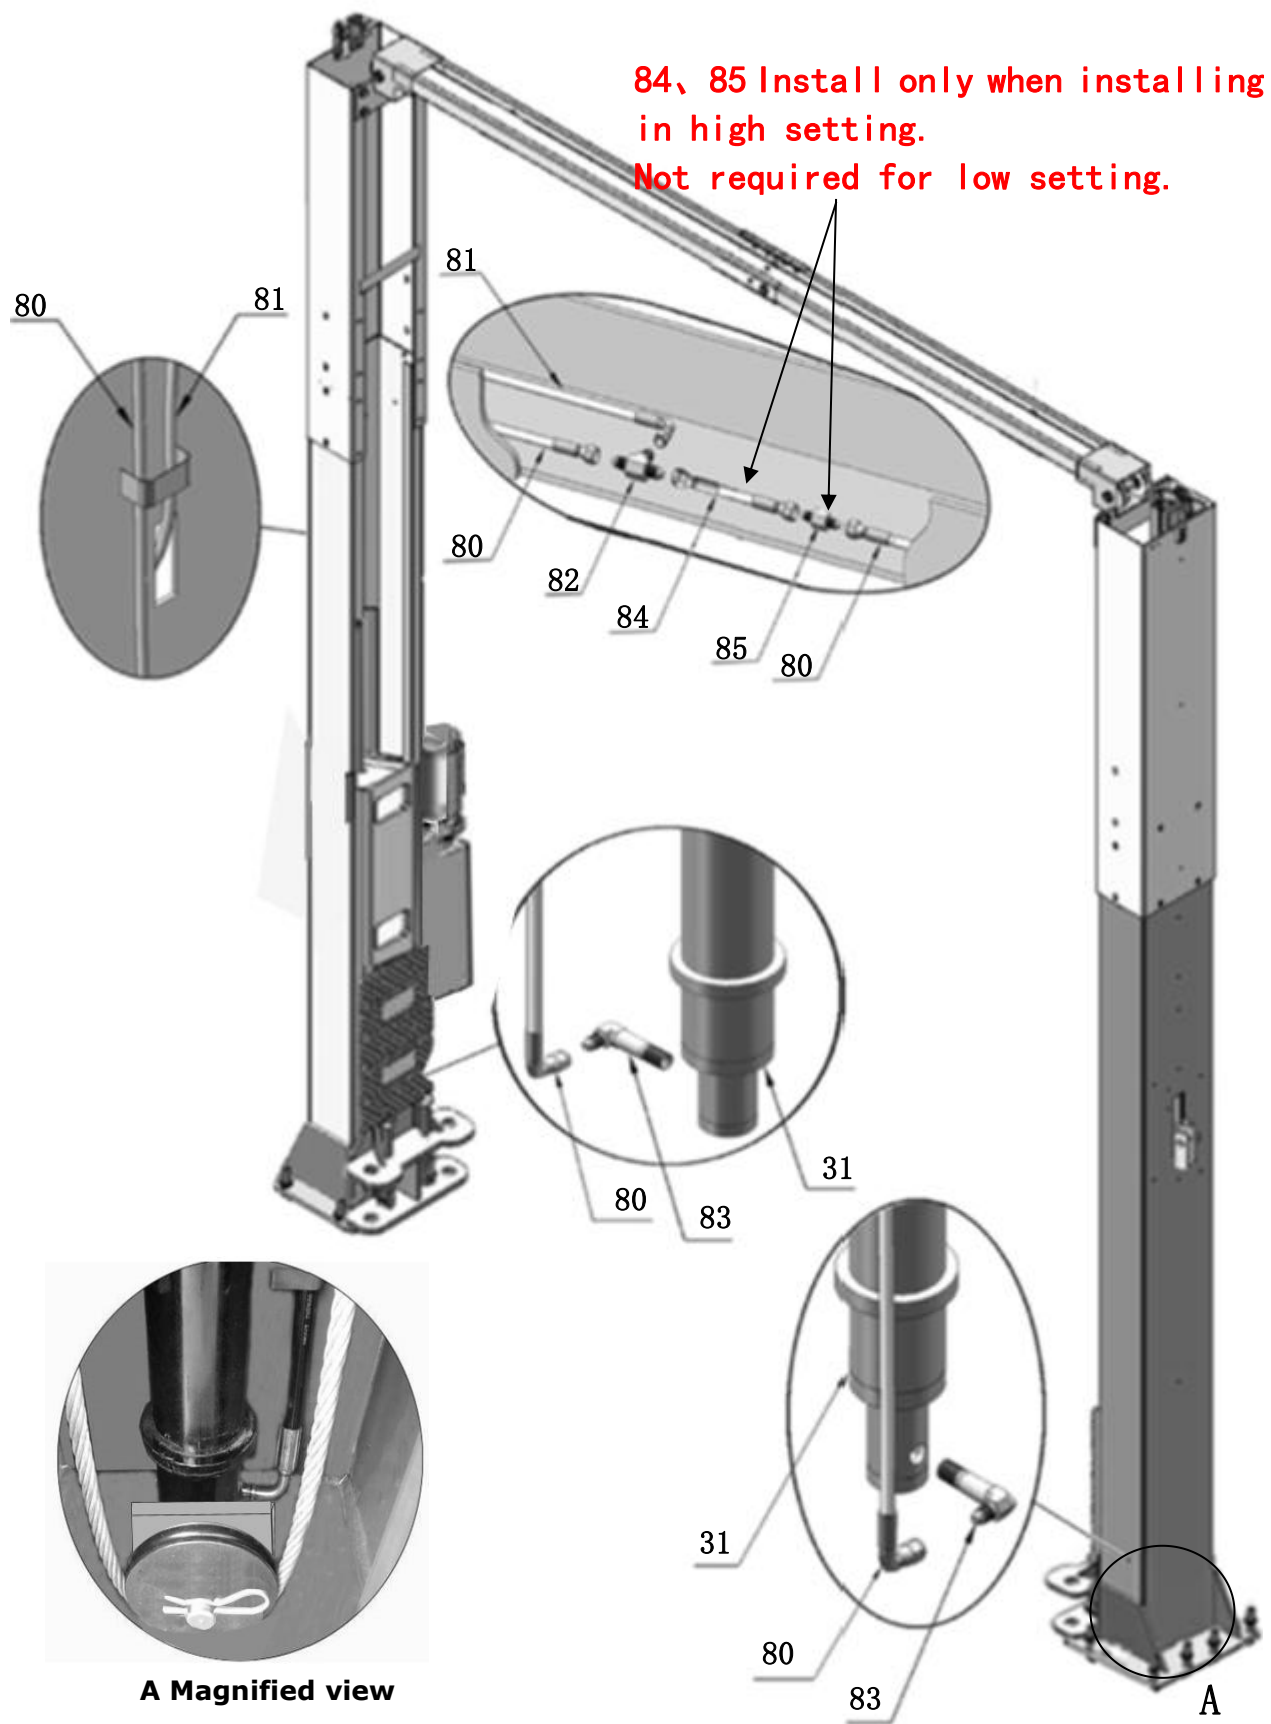

Fig.31
2. OHX-10H Oil hose Installation (See Fig. 31).